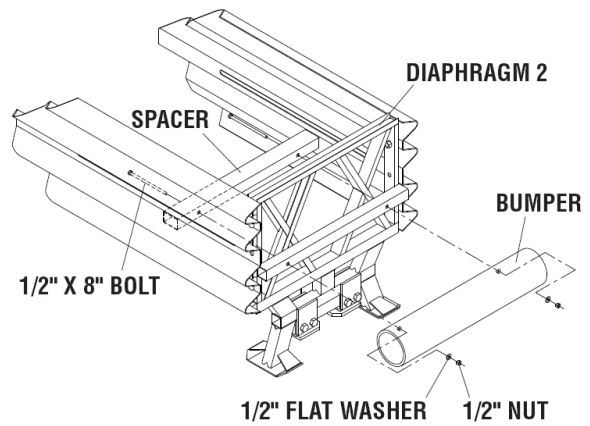

Figure 32
- B. Using 1/2" x 8" bolts, 1/2" flat washers and 1/2" nuts, attach Bumper to front, and Spacer to rear of diaphragm 2 (Figure 32).